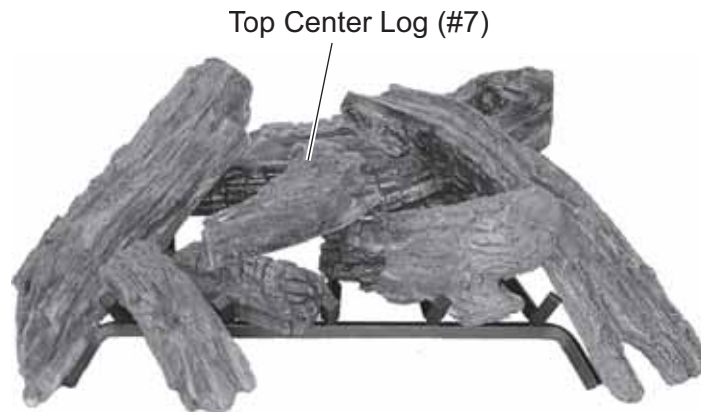

Figure 83 - Resting Center Top Log (#7) Bottom left Log and Back Log
8. Rest Top Center Log #7 on bottom left log #2 and back log #1. *See Figure 83.*